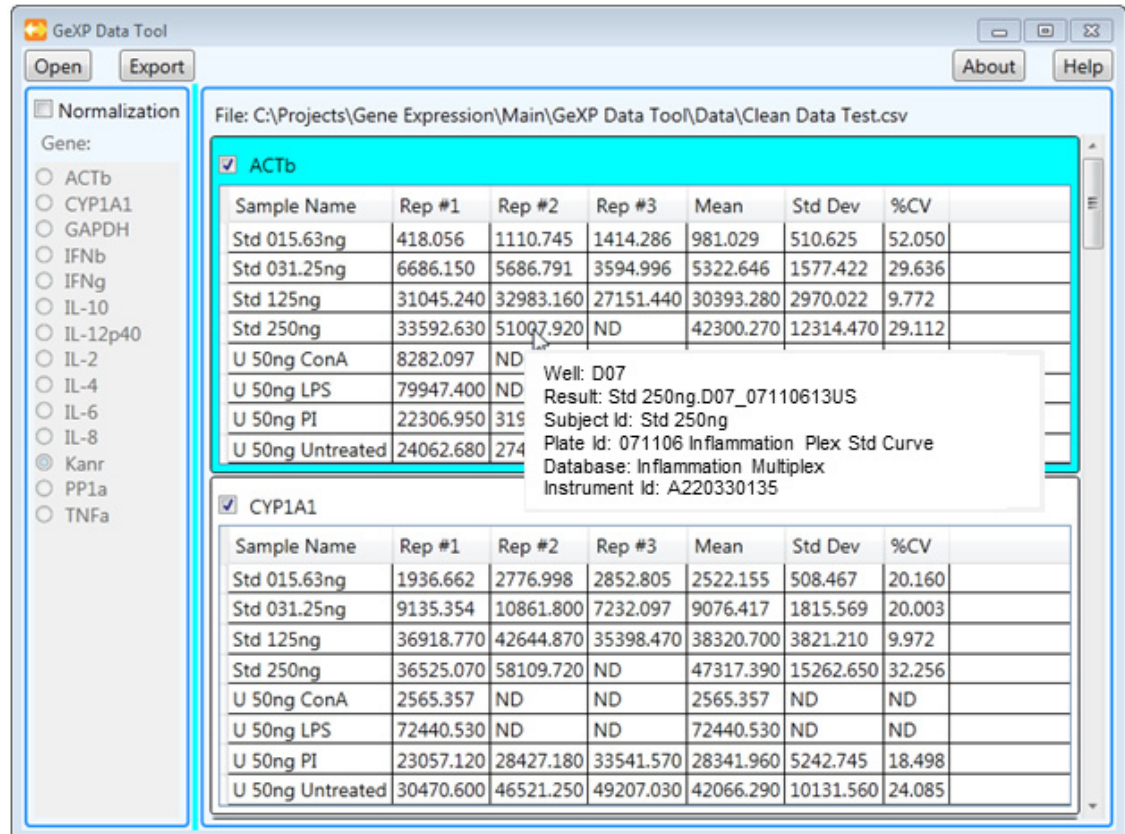

Figure 7.24 Opened Input Data File
- When the mouse cursor hovers over a cell with data (refer to Figure 7.24), a pop-up will occur that provides the following information: